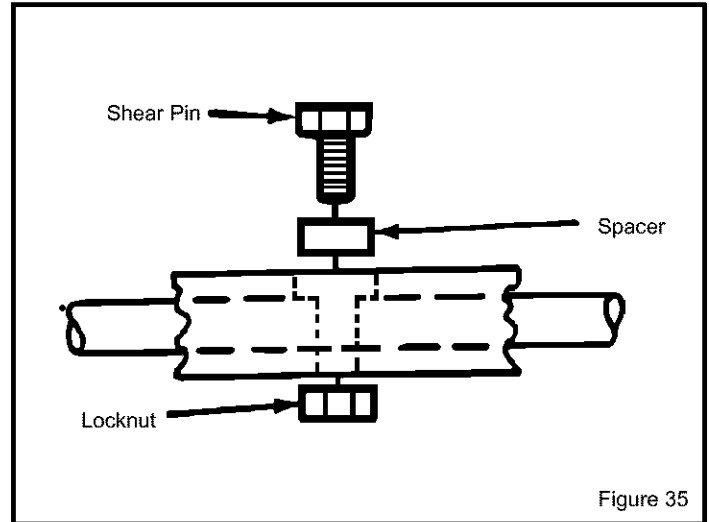

Figure 35
2. Align the hole in the auger with the hole in the auger shaft. Install new shear bolt, spacer and locknut provided. (See Figure 35)